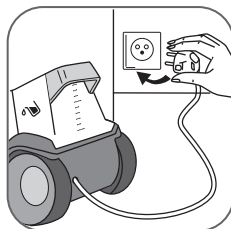

fig. 11
- Plug in to power socket. (fig.11)